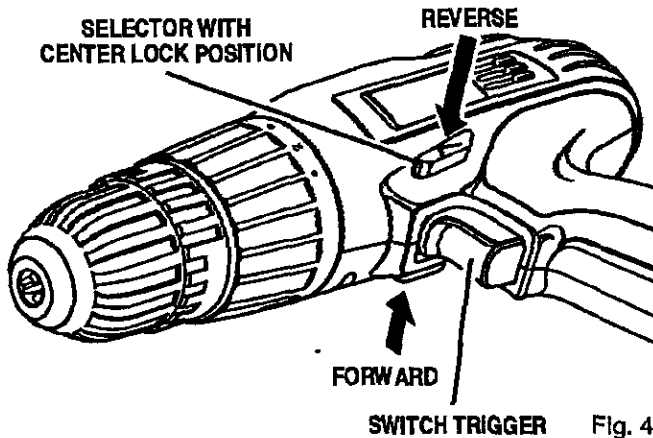

Fig. 4
See Figure 4.
- Lock the switch trigger by placing the direction of rotation selector in center position. See Figure 4.